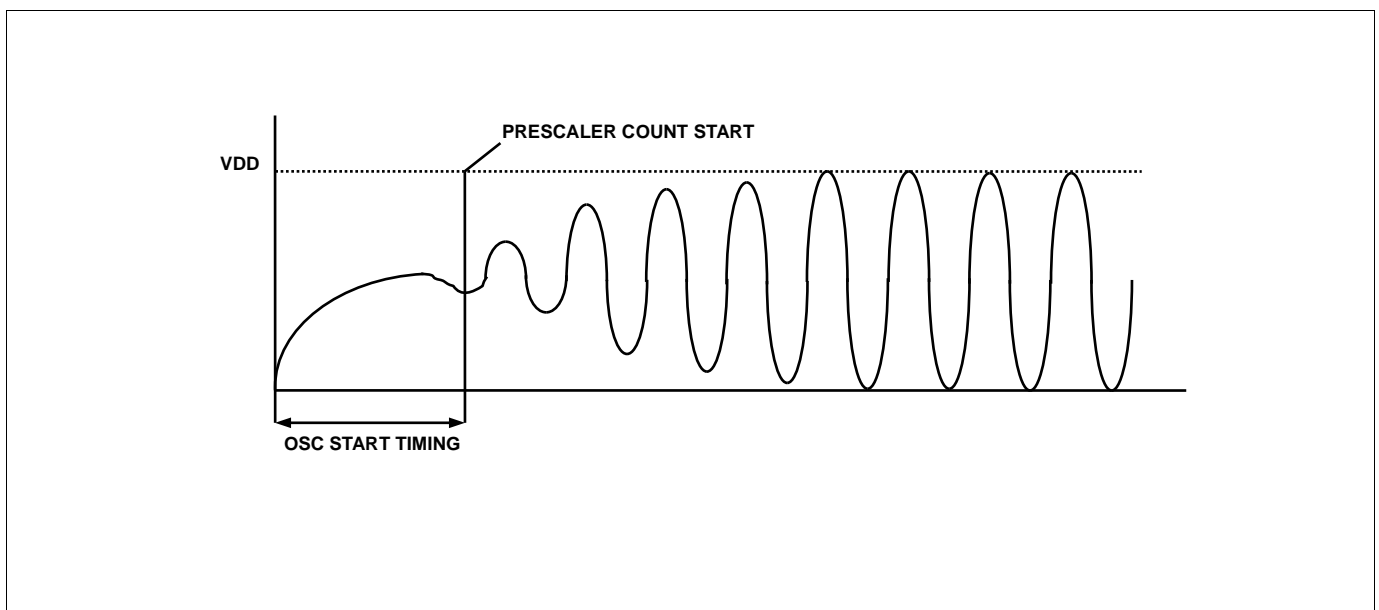

Figure 13-8. Oscillator generating waveform example
1. As shown Figure 13.8, the stable generating time is not included in the start-up time.